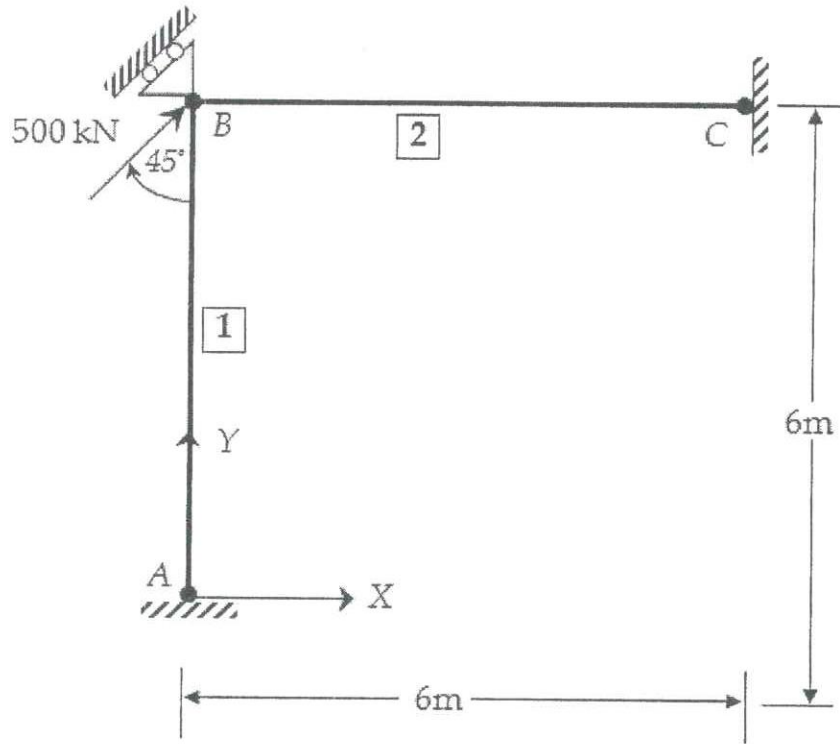

Fig. Q4
- Q4. Pin-jointed 2D truss is pinned support at Nodes A and C and roller support at Node B as shown in Fig. Q4. The Young's modulus $E = 200 \text{ GPa}$ and cross-section area $A = 4.5 \times 10^{-4} \text{ m}^2$ for both elements AB and BC. The truss system is subjected to a force of 500 kN at Node B, as shown in Fig. Q4.